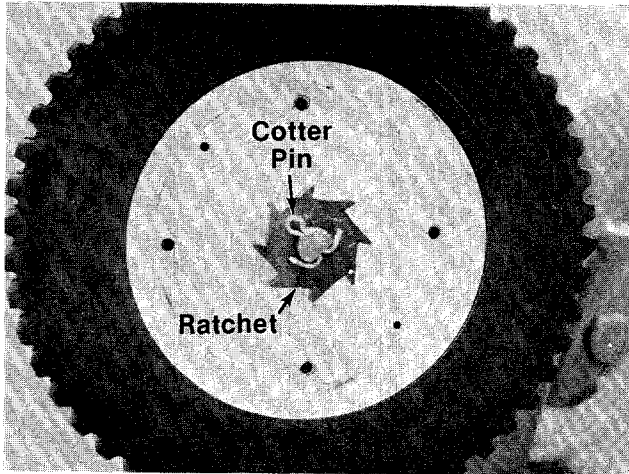

FIGURE 22.
- Remove the cotter pin on the RIGHT WHEEL ONLY and remove the ratchet. See figure 22.
Mark the outside of the ratchet so it is not assembled backwards or refer to figure 22 for reassembly.